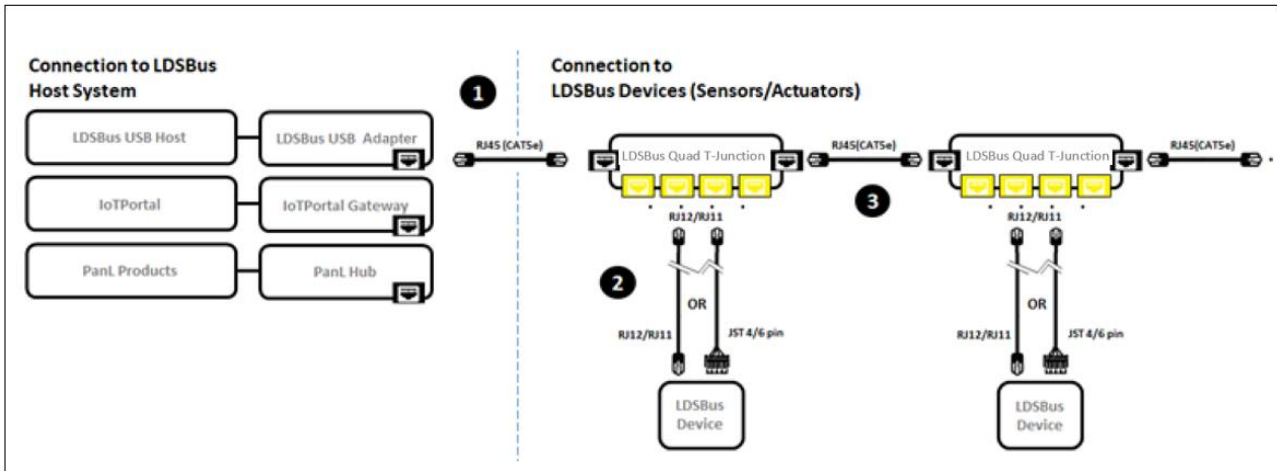

Figure 2 - LDSBus Thermocouple Sensor Adapter - Connection Diagram
Figure 2 illustrates the connection of the LDSBus Thermocouple Sensor Adapter (LDSBus Device) to the LDS Bus. Please visit <https://brtsys.com/resources> to view the full device application, setup and installation guides.
2. Connect the configured LDSBus Thermocouple Sensor Adapter to the LDSBus Quad T-Junction as shown in Figure 2.
3. If there is more than one LDSBus Quad T-Junction, chain them together as shown in Figure 2.